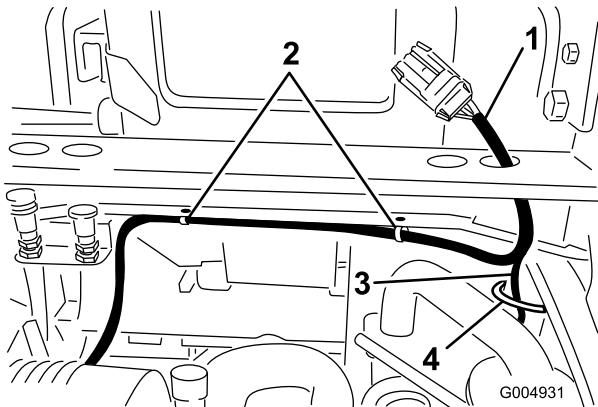

Figure 27
3. From the same end of the harness as the large connector, route the long cab wire (with two connectors), down the ROPS post, under the rear panel frame member and up through the hole in the bottom of the control panel (Figure 27). Secure the long wire to the lower ROPS post with a cable tie.